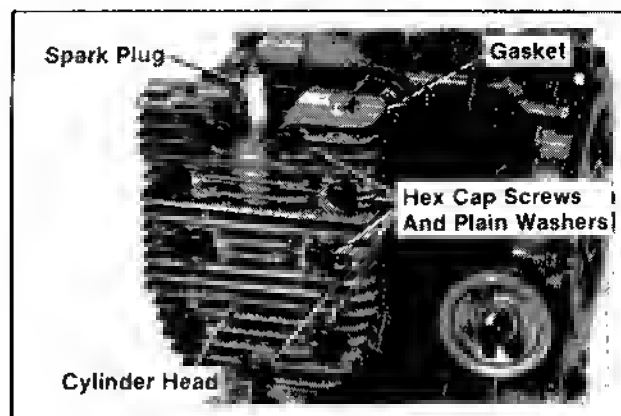

Figure 9-22. Removing Spark Plugs and Cylinder Heads.
2. Remove the hex. cap screws, plain washers, cylinder heads, and gaskets. Refer to Figure 9-22.